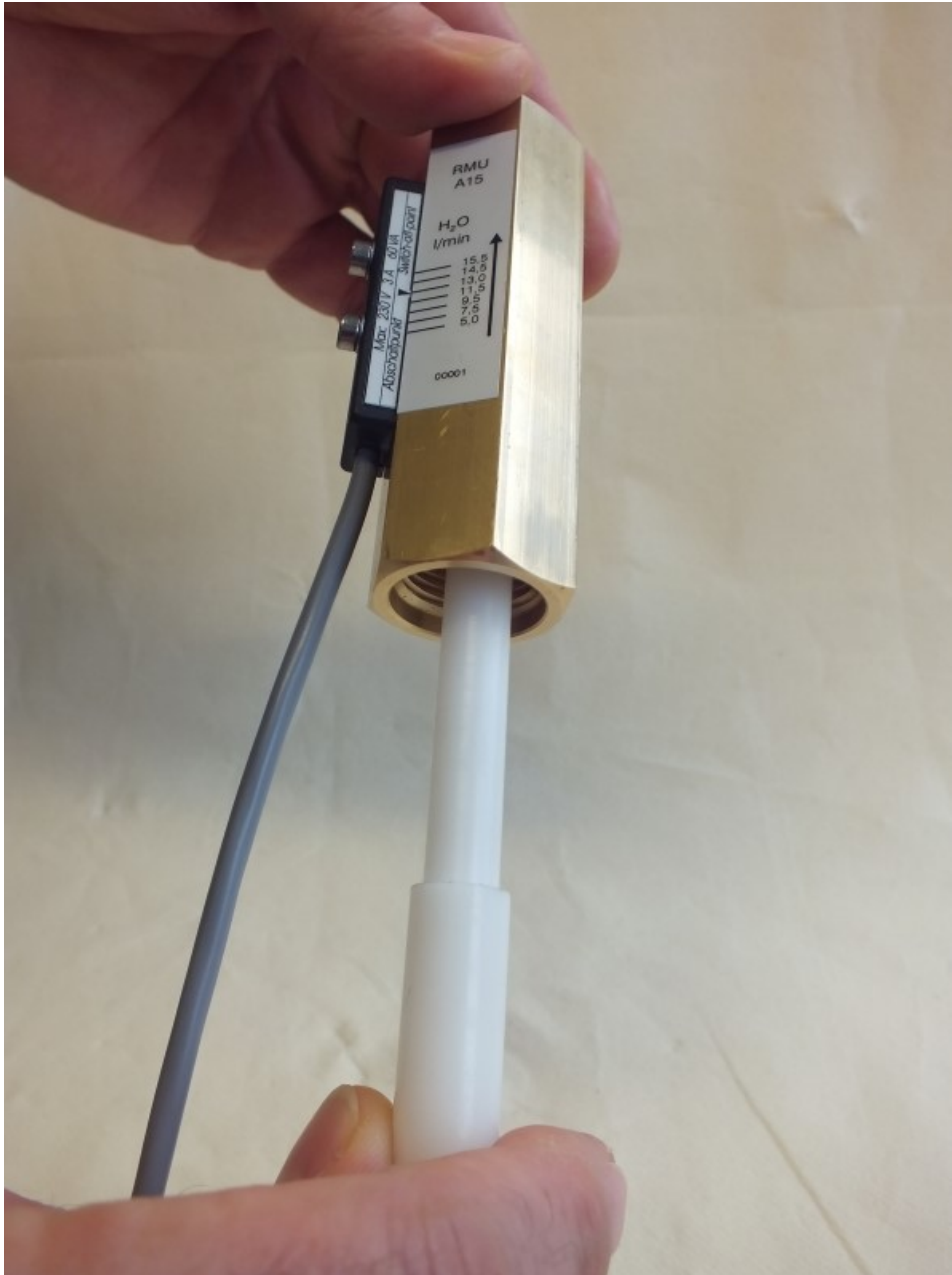

Fig. 31: Check for smooth operation
5. Check the float for ease of movement (Fig. 31) by applying light pressure with the test rod